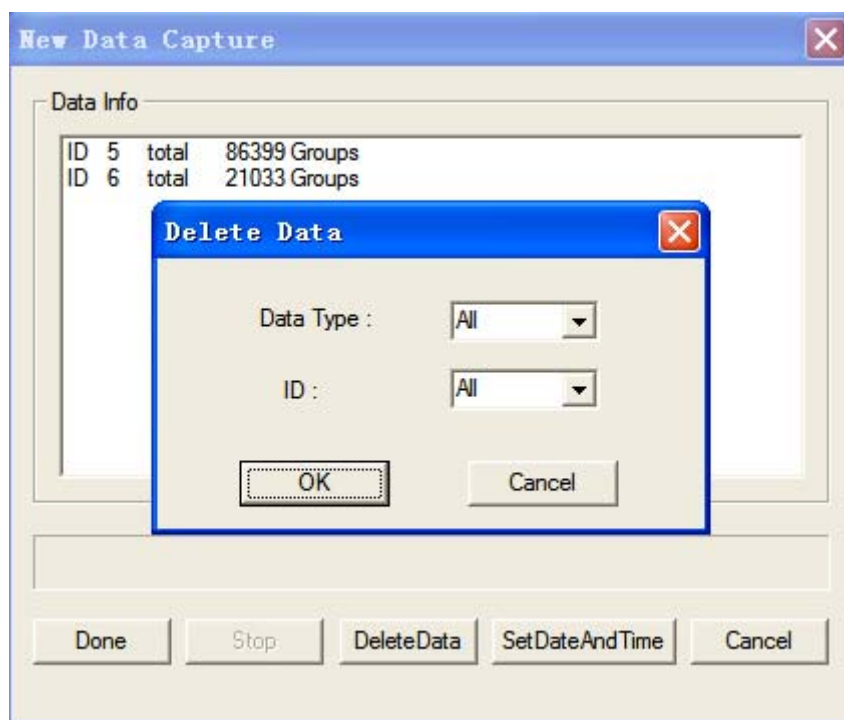

Figure 3-7
(2) **Delete Data:** Click “DeleteData”, the following figure will appear, as shown in Figure 3-7. Select the “Data Type” and “ID” from their drop-down lists, and then click the “ok” button to confirm. The figure